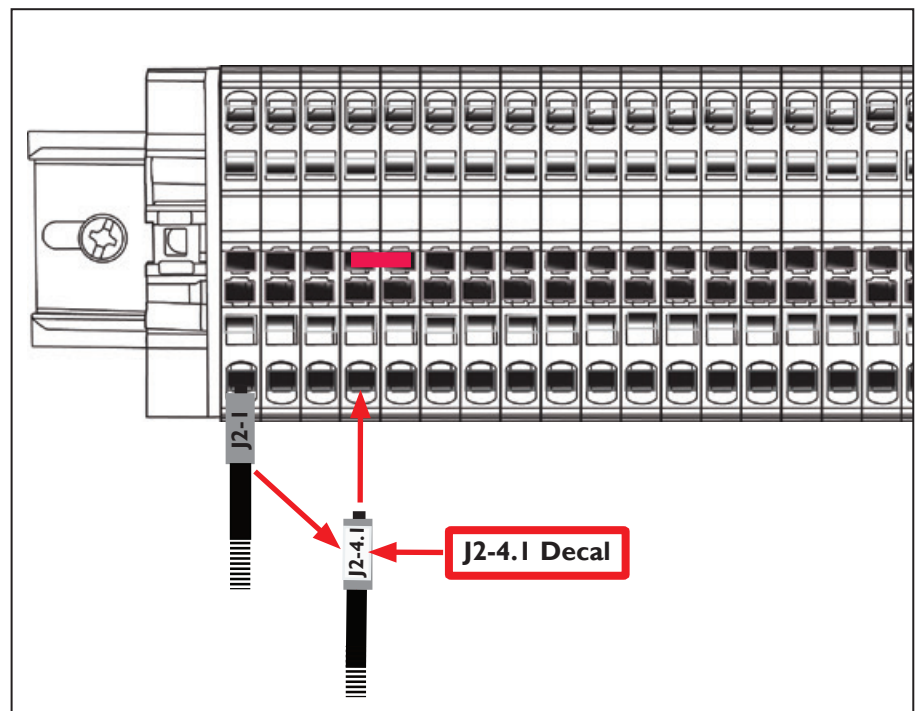

Figure 4
14. Move wire **J2-1** to slot 4 (to the right) as shown in **Figure 4**.